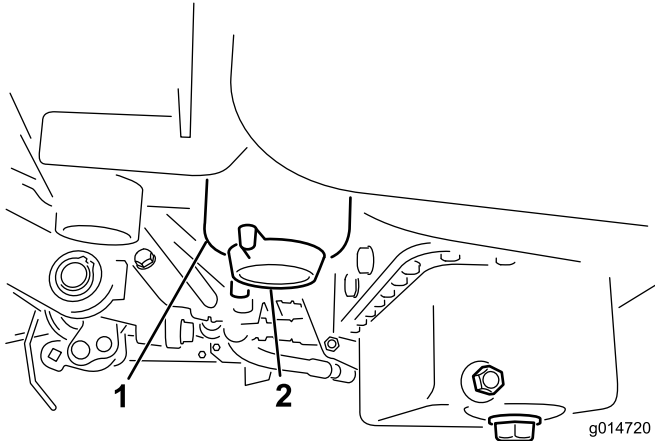

Figure 30
3. Open the drain plug on the fuel filter approximately one turn and drain any accumulated water (Figure 30). Tighten the plug after draining.